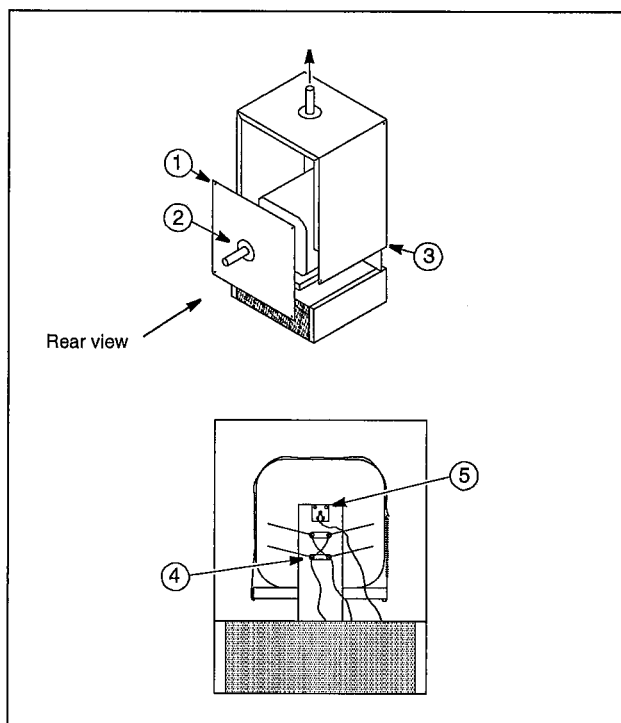

Figure 6. Heating Unit Replacement
To replace the heating unit, complete the following steps (refer to Figure 6):
1. Remove any atmosphere piping connected to the atmosphere pipe (item #2 in Figure 6).
3. Remove the screws from corners of the rear panel (#1 in Figure 6).
6. Remove the six corner screws from the shell (#3 in Figure 6).
8. Note the terminal connections of the element wires and label them for reattachment. Loosen the terminal nuts and remove the element wires (#4 in Figure 6).
9. Remove the thermocouple head screws and slide the thermocouple out (#5 in Figure 6).